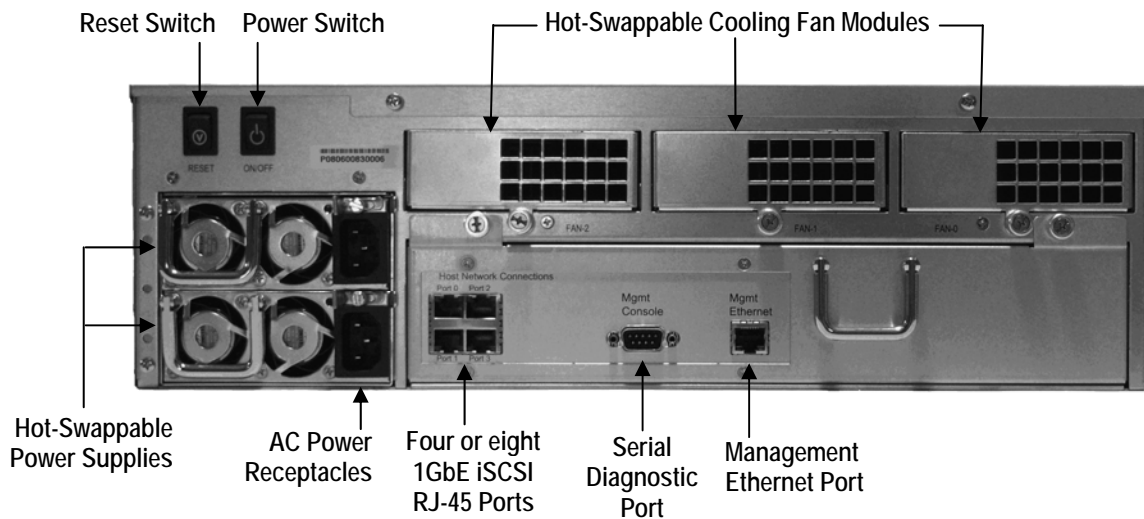
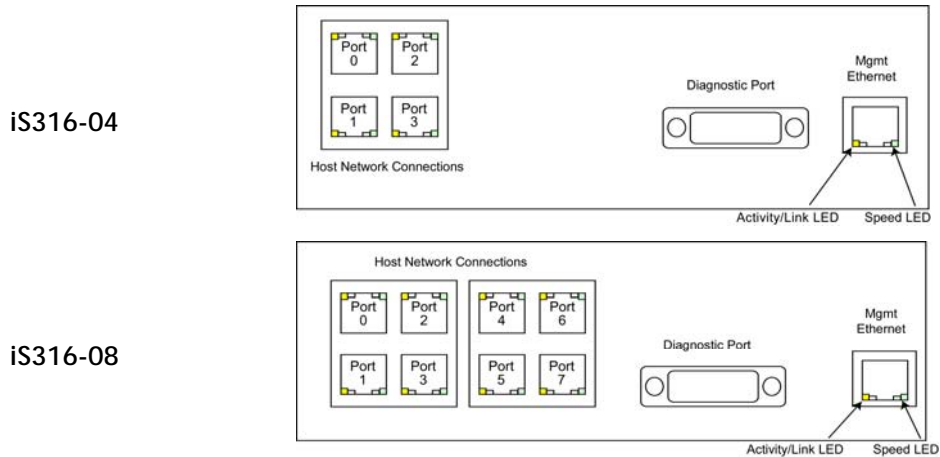

Figure 2-4. Rear View of the iS316 Storage System (4-port configuration shown)
Figure 2-5. Close-Up View of the iS316 Rear Panel
The rear of the iS316 storage system enclosure has the following components (see Figure 2-4 and Figure 2-5):
- Power switch and reset switch - are located above the I/O panel (see Figure 2-4 and Table 2-4).
1. Attach one end of an Ethernet cable to host network connection port 0 on the iS316 storage system back panel (see the top or middle figure in Figure 2-5 on page 9). Connect the other end of the cable to your SAN or host system.
2. Connect the other end of the cable into the iS316 storage system **Mgmt 10/100** port. This port is located to the right of the diagnostic port on the back panel (see Figure 2-5 on page 9).